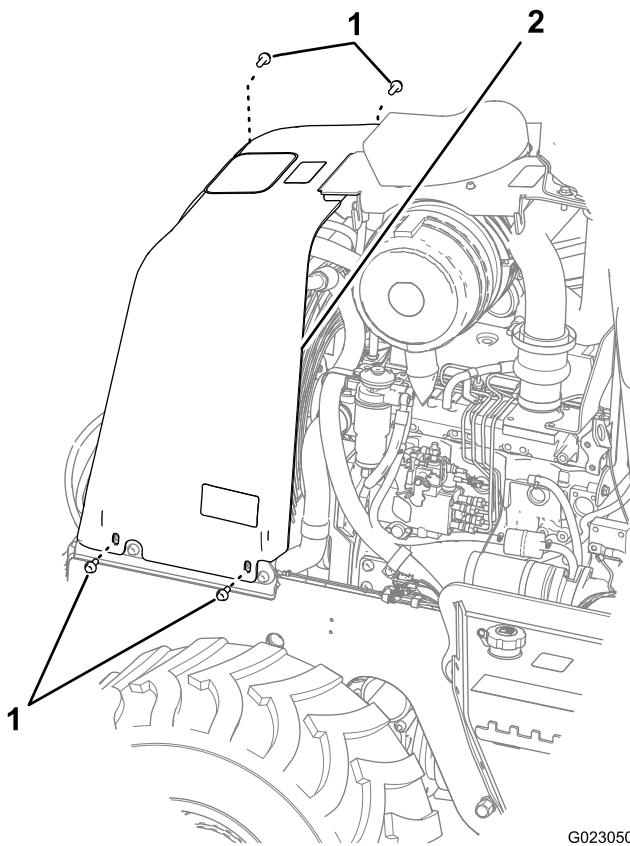

Figure 39
3. Remove the 4 bolts at the bottom of the left and right sides of the nose panel (Figure 39).